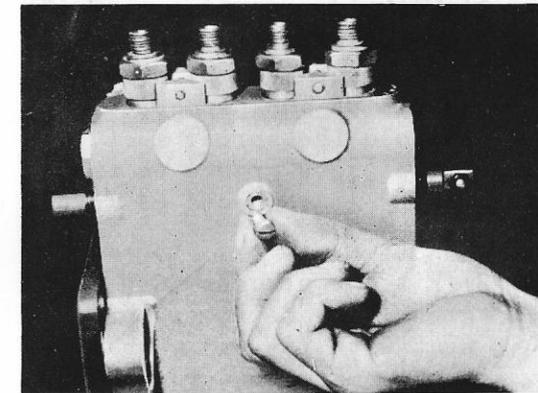

Fig. 9-54
- 2) Tighten the control rack guide screw on the reverse side of the pump body. (See Fig. 9-54)